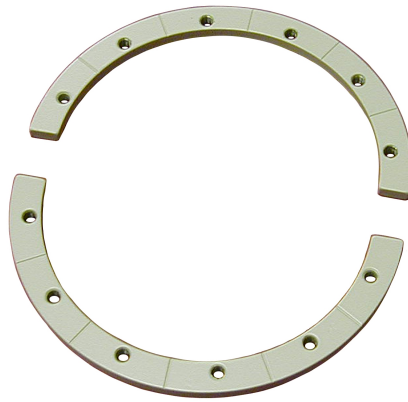

Figure 6-21. IP-65 Arcs
2. For the IP-65 version, from the underside of the inner link, looking up, remove the 12 M5 x 10 screws and lock washers that hold the IP-65 arcs onto the IP-65 gaskets. Both arcs, lock washers, and gaskets are half-circles, as shown in Figure 6-21.
- Cut one of the IP-65 arcs, shown in Figure 6-21, so that you have the correct number and size arc segments to fill the gaps between the adjustable hardstop plates.